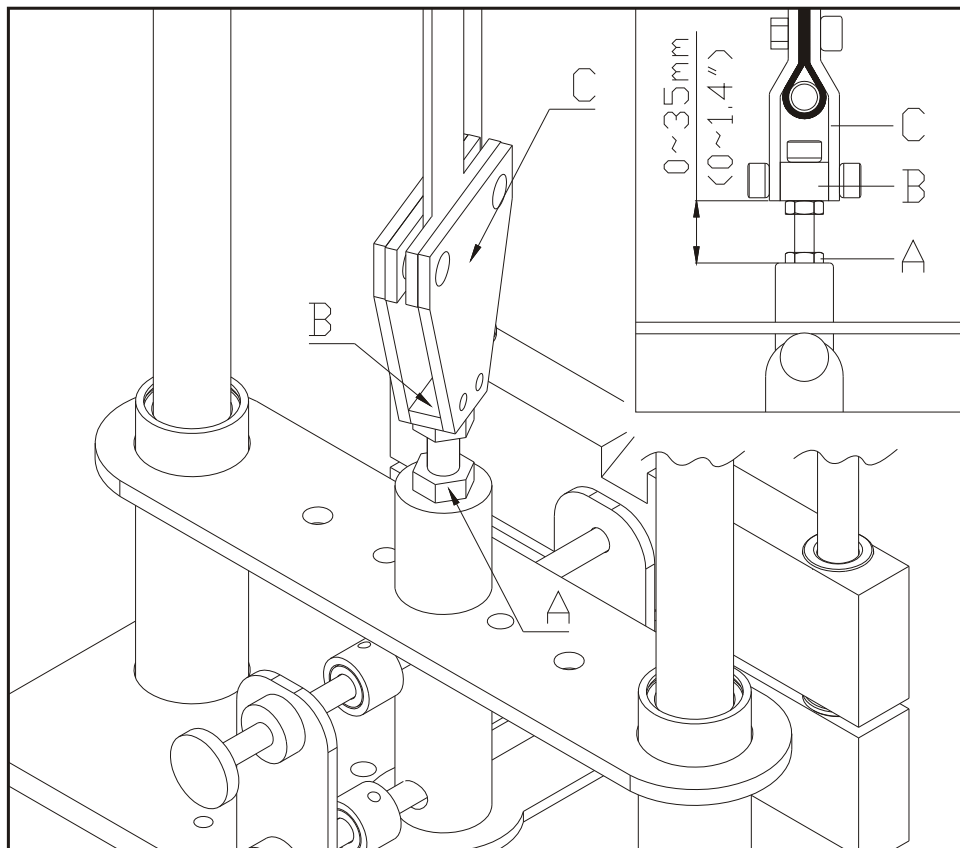

Fig.6
2. The gap between nut A and B must be within 35mm(1.4"). If the gap still exceeds the 35mm limit after the first step, please loosen the screws on C and adjust the belt to the proper length. Tighten the screws and follow the 1st step again. (See Fig. 6)